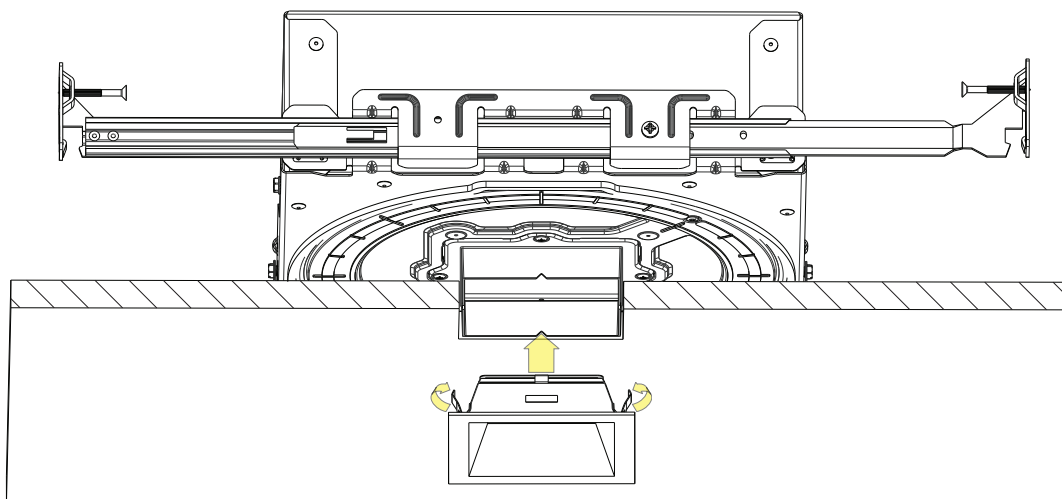

fig. 21
- a. Ensure the trim springs are fully compressed and engaged with the inner surface of the flanged collar. Use caution to make sure the springs are in contact with the inner surface of the collar and do not engage between the outer surface of the collar and the ceiling material (see fig. 21).